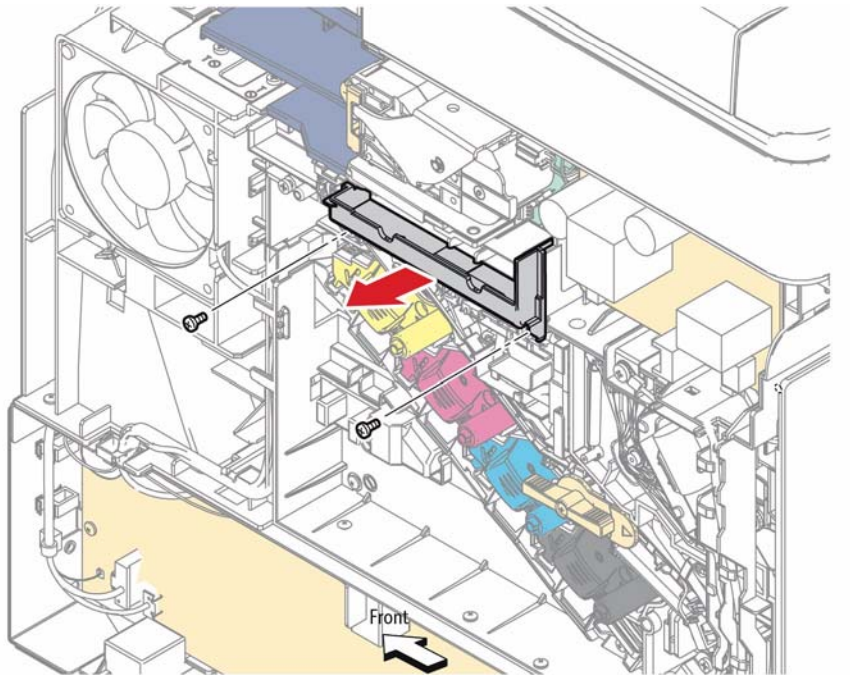

Figure 1 Remove the Staple Box
3. Refer to Figure 1 to locate and remove two screws (silver, tapping, 8 mm) attaching the Staple Box and remove the Staple Box.